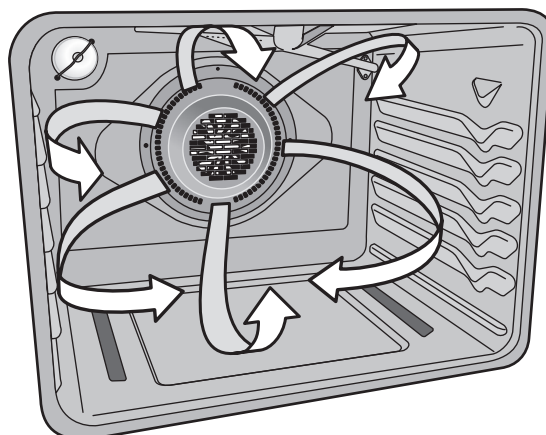

Fig. 1
3. When using 2 oven racks at the same time, place in positions 2 & 5 for best results (See Fig. 1).